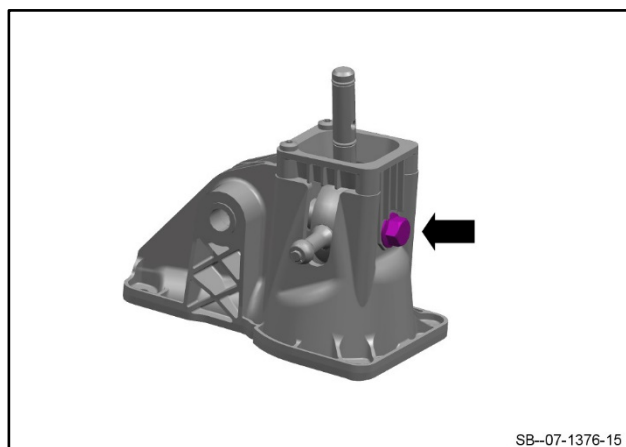

Figure 13
14. Install and torque the retaining bolt for the gear selector lever to 8 Nm (refer to Figure 13).